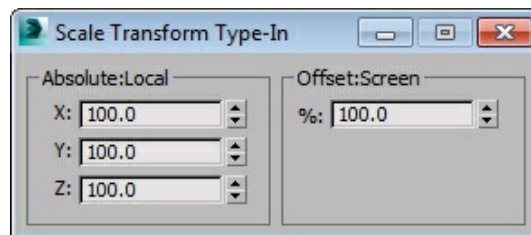
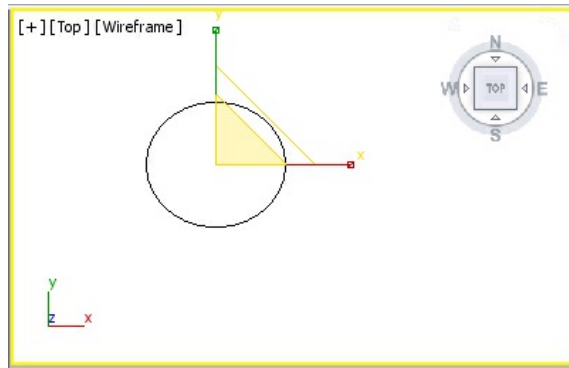

Figure 10-83 The Scale Transform Type-In dialog box
Figure 10-84 The *Circle001* spline scaled along the X-axis
3. Make sure that *Circle001* is selected in the Top viewport. Right-click on the **Select and Uniform Scale** tool from the **Main Toolbar**; the **Scale Transform Type-In** dialog box is displayed, as shown in Figure 10-83. Now, in the **Absolute:Local** area, set the value **111.0** in the **X** spinner; *Circle001* is scaled along the X-axis, as shown in Figure 10-84. Now, close this dialog box.